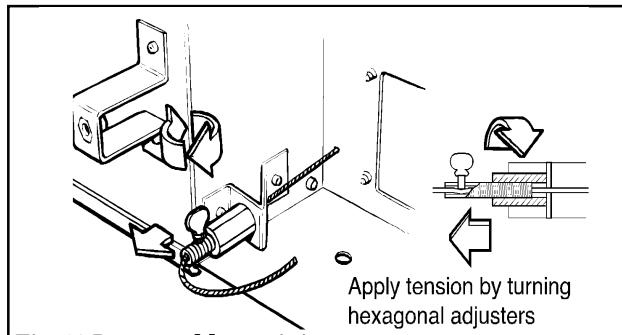

Fig. 13 Lower cable retaining
**7.2.8** Pull each cable taut. Push the cable retainers hard up against the "V" brackets. Tighten the screws in the retainers so that they clamp the cables in position. Apply tension to the cables by turning the hexagonal adjusters by hand (see figure 13).